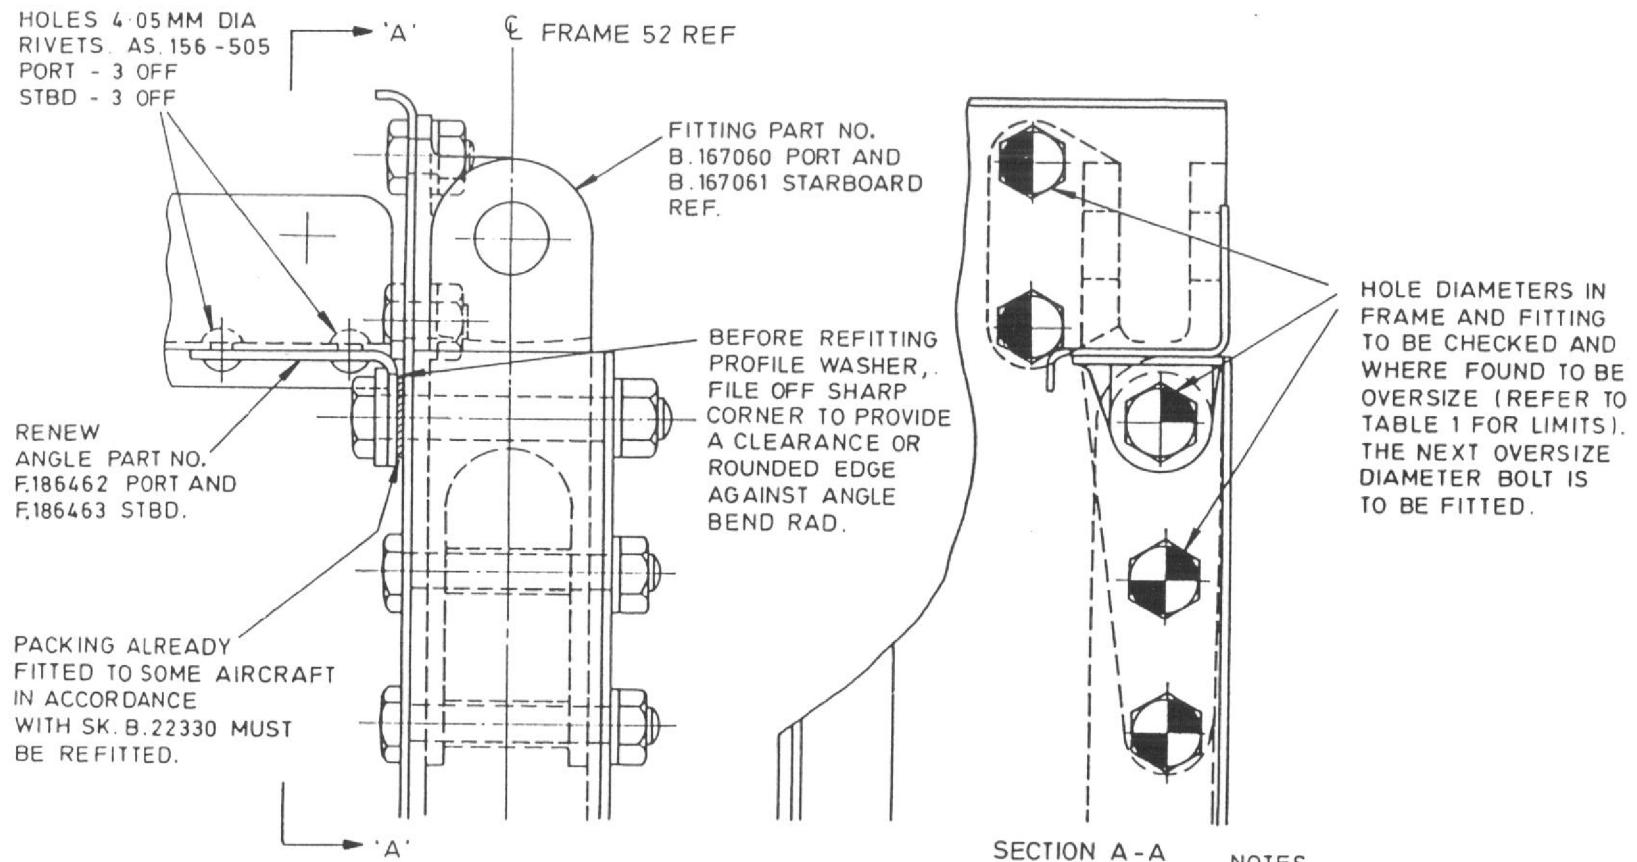

FIG. 1. VIEW ON FRONT ATTACHMENT FITTING FOR FIN
- Repairs may be carried out in accordance with the following paragraphs and with reference to the repair figures 1 and 2 in this leaflet.
(1) Remove fin in accordance with the Aircraft servicing Manual Sect. 3 Chap 3.
(2) Carry out repairs to port and starboard fittings as necessary as detailed in repair figures 1, 2 and using tables 1 and 2 for replacement items.